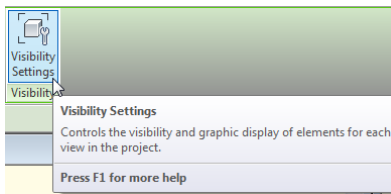

Figure 37
3. In Edit Group mode, select the nested shelf family instance onscreen. On the Modify | Generic Models tab, click the **Visibility Settings** button (see Figure 37).